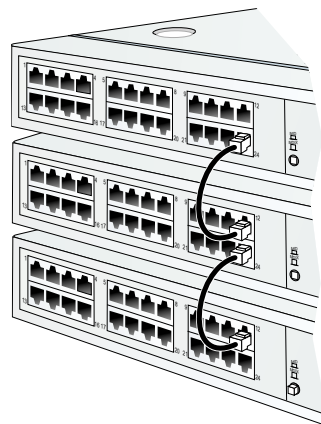

Figure 2-2 Patch Cable and MDI Selector Configuration
- c. Using a pencil or other pointed instrument, set the medium-dependent interface (MDI) switch on the top and middle hubs to **MDI (in)**. Set the MDI switch on the bottom hub to **MDIX (out)**. The configuration is shown in Figure 2-2.
- c. Using a pencil or other pointed instrument, set the medium-dependent interface (MDI) switch on the top and middle hubs to **MDI (in)**. Set the MDI switch on the bottom hub to **MDIX (out)**. The configuration is shown in Figure 2-2 on page 2-7.